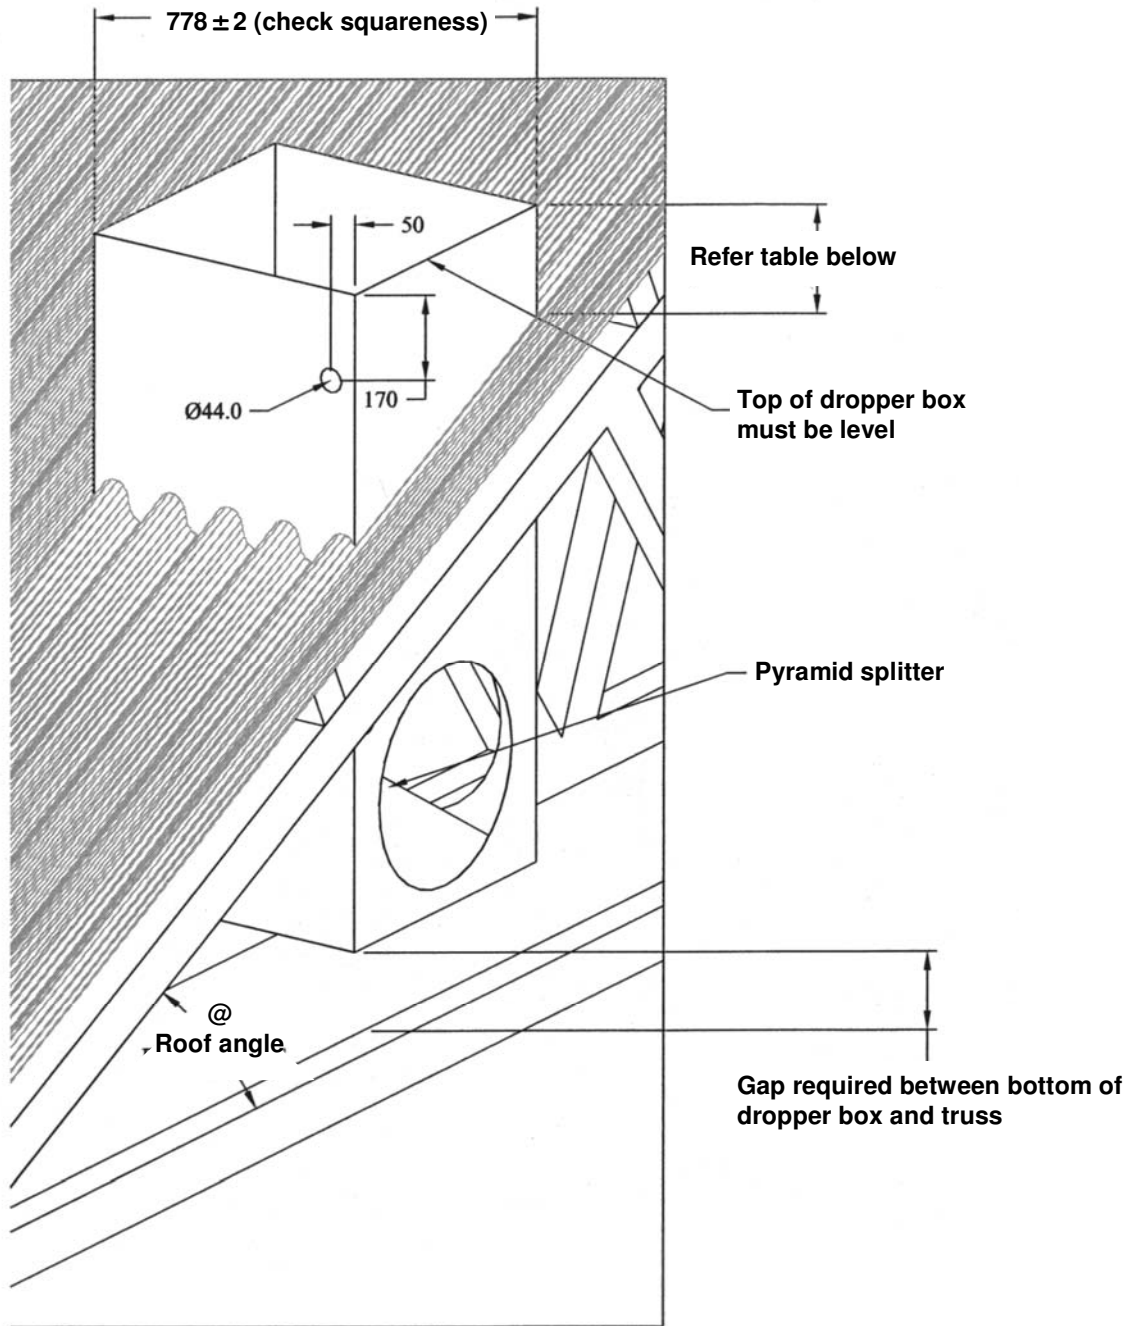

Fig 3 Dropper box installation
3.1.2 Dropper box protrusion against roof angle (see fig 3)
4. Drill two holes of 44mm diameter. **(see fig 3)**
3.2.4 Electrical Installation (see figs 3 and 4)